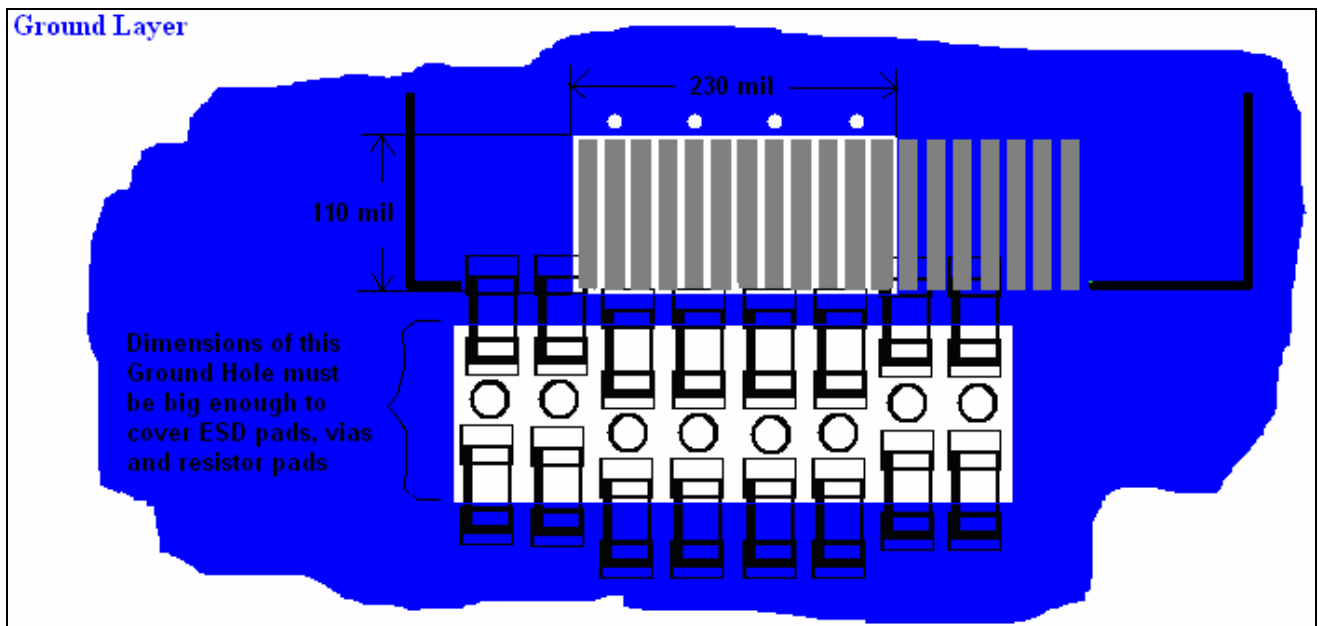

Figure 9: Ground Layer Recommendation of PCB with ESD + Via + Pull-up Resistors
- The hole must be big enough to cover all ESD protector pads, vias and pull-up resistor pads for all four pairs of signals at one HDMI connector. Please refer to Figure 9.